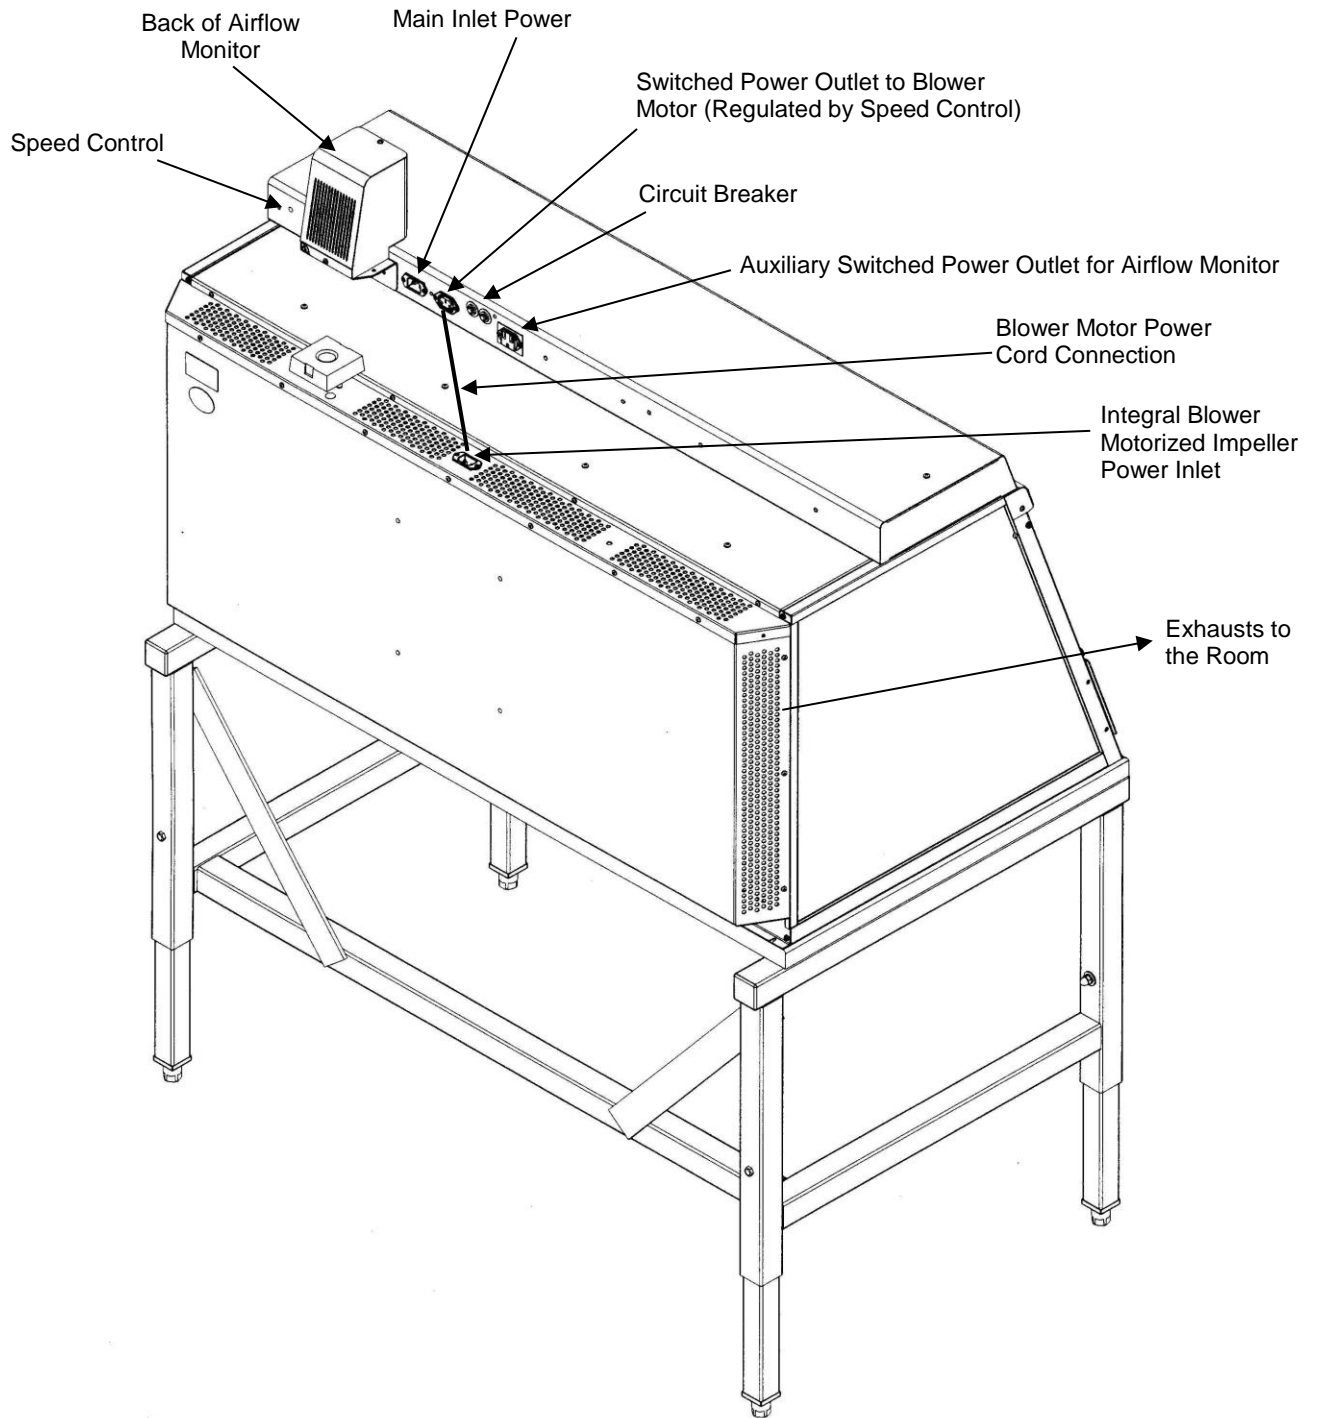

Figure 3-4
Simply connect the 115V power cord supplied to the IEC electrical supply plug on the back of the enclosure, then connect the integral blower power cord from the motorized impeller outlet on the exhaust to the back of the upper light control panel. If operating at 50 Hz operations, integral blower performance maximum airflow will be reduced by 17%. See Figure 3-4 on the following page.
For Protector Work Stations with integral blower, adjustment of the speed control gives the correct face velocity and is located behind the upper light control panel. The face velocity should be adjusted from 60 to 100 fpm. (Consult your Safety Officer for airflow recommendations for your application). Containment is maximized at a setting within this range. Working at the lowest face velocity appropriate for the application will give the quietest operation. Face velocity measurements are made using an anemometer. An electric anemometer can be obtained from your laboratory supply dealer. Face velocity measurements should be taken in accordance with the *Industrial Ventilation Manual*. (See Appendix E) Using a small Phillips screwdriver, adjust the speed control to give the required face velocity. See Figure 3-4 to locate the speed control. The face velocity is increased by turning the speed control counter clockwise and clockwise to decrease face velocity.
12. **Speed Control (Integral Blower Models Only)** regulates the speed of the motorized impeller and is used by the certifier to validate and adjust the inflow velocity. It is located behind the upper light assembly. See Figures 4-2 and Figure 3-4.